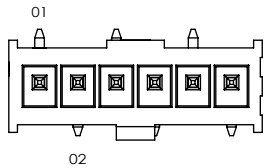

FIG 2
-02: SURFACE MOUNT (SEE FIG. 2, SHT 2) (USE T-1S64-XX-XX)
(SAME AS FIG 2, UNLESS OTHERWISE STATED)